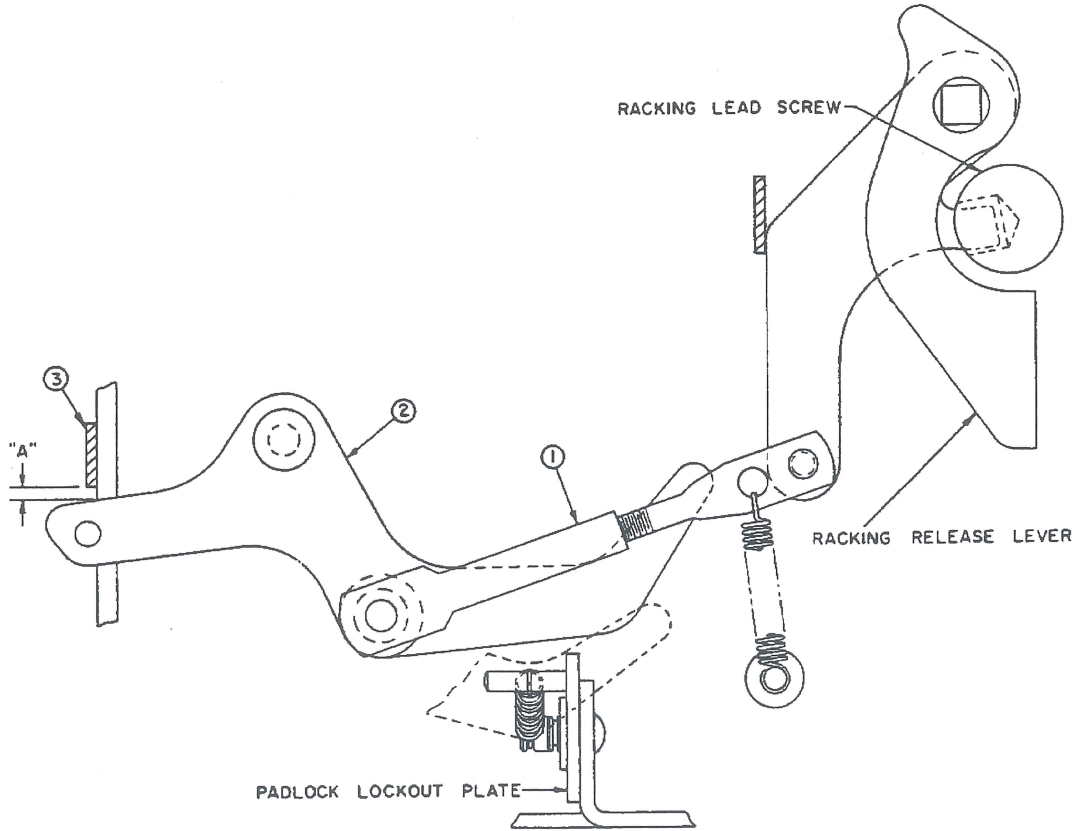

Fig. 6 — Racking Mechanism
**RACKING MECHANISM (See Fig. 6)**